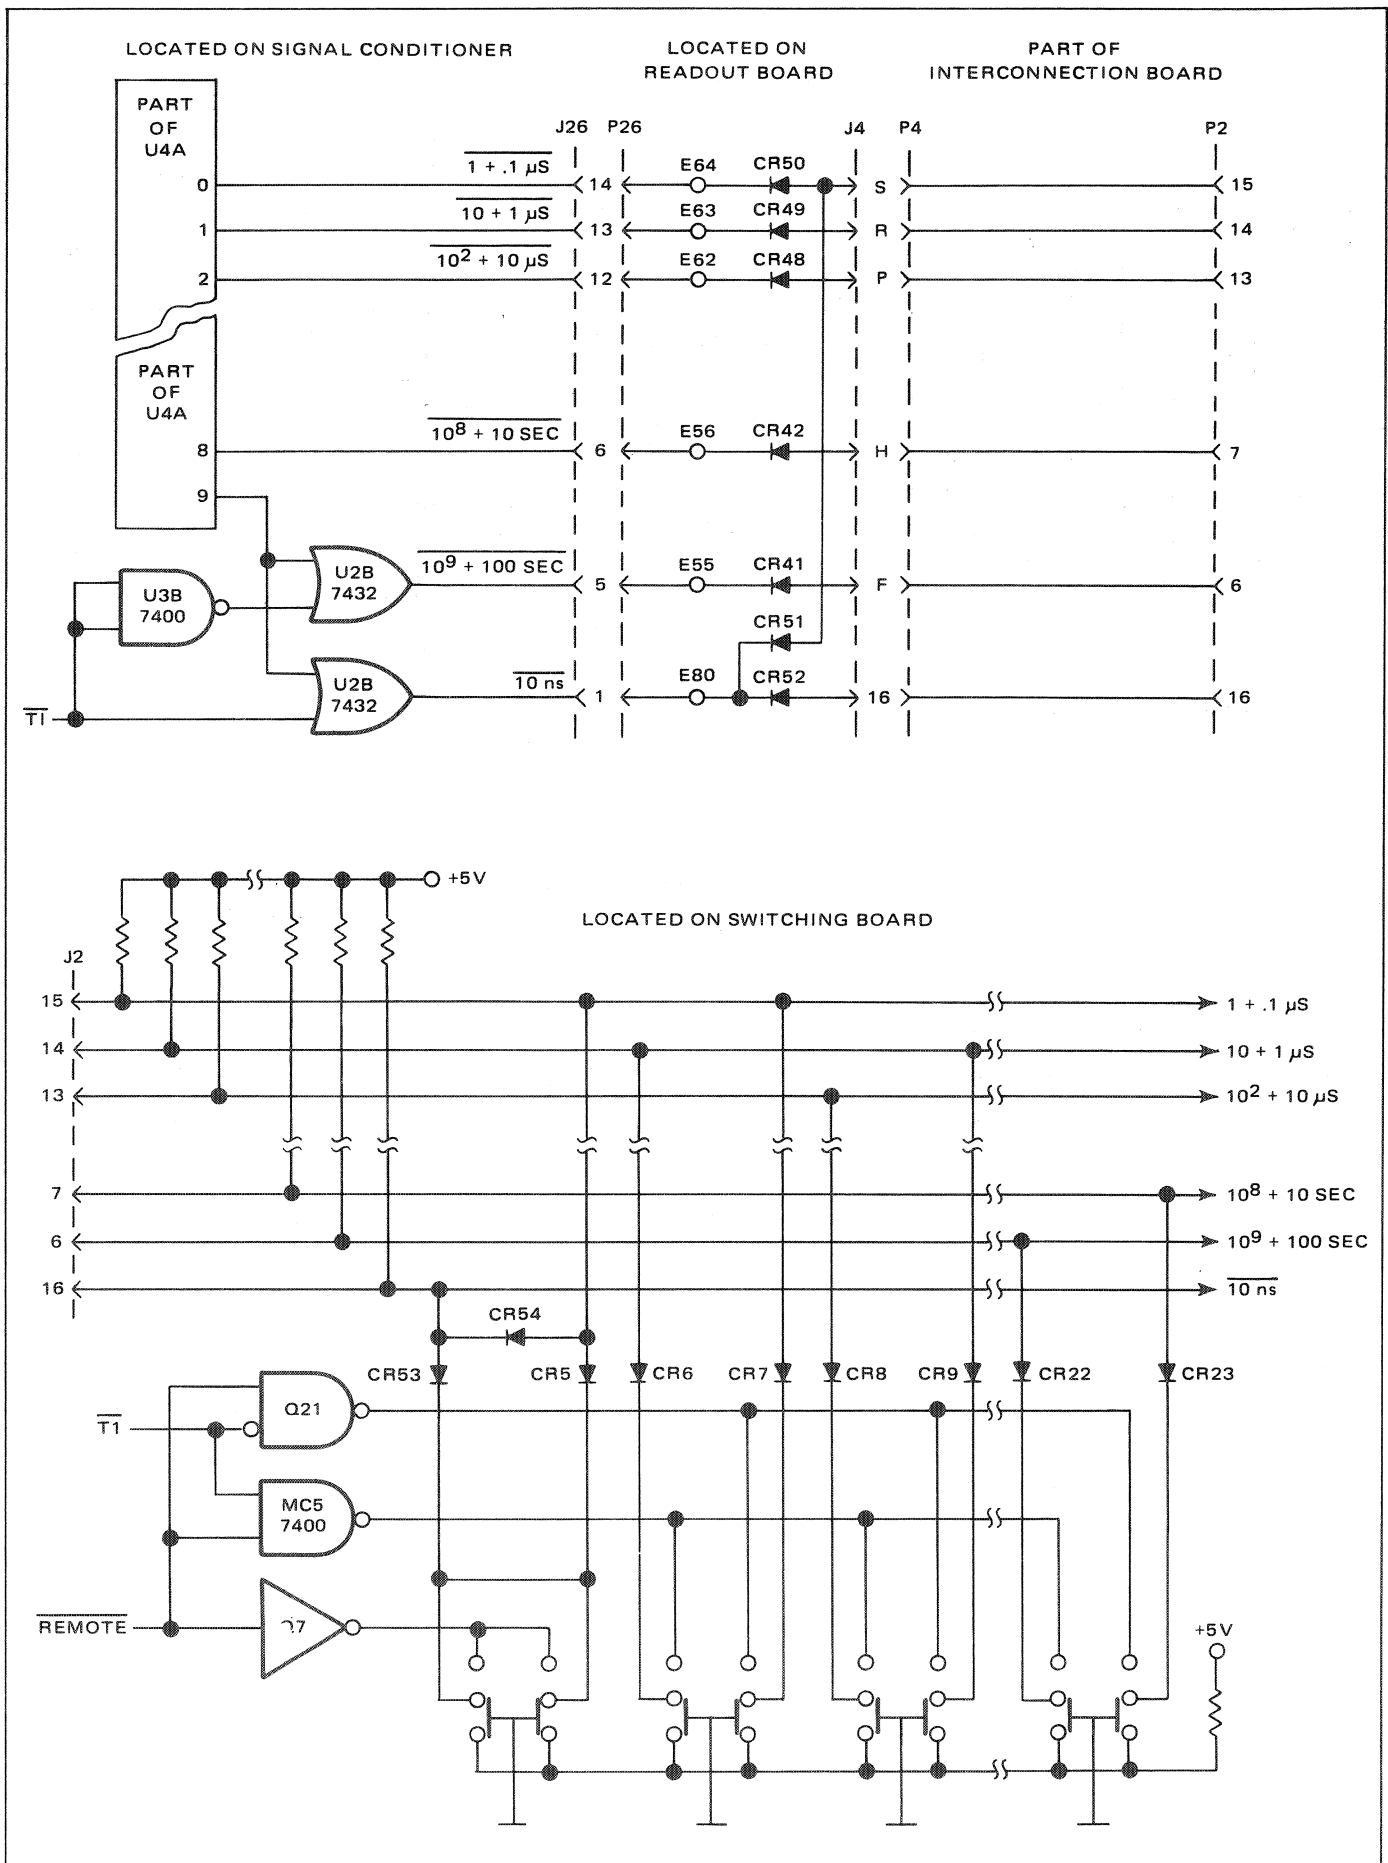

Figure 3.10 - 009 Remote Multiplexer/Time Base Decode (8015B, 8035B)
3.41 In all functions except Time Interval, the multiplier/time base of these instruments is programmed and operates in the same manner as the 8010B and 8030B counters. That is, the input BCD code is converted to 10-line by converter U4A and U4A is inhibited while the instrument is in local control. As shown in figure 3.10, additional logic is provided for the TI function and includes two 'OR' gates (U2B) and a NAND gate (U3B). In all but the TI function, the \overline{TI} line (from the function converter, U4B) is logic 1, U3B output is logic 0, and the 9 output of U4A, when selected, appears at J26-5. In the TI function, \overline{TI} is
logic 0, the output of U3B is logic 1 and the 9 output of U4A, when selected, appears at J26-1 (10 ns line). Also shown in figure 3.10 is the interconnection of the remote and local multiplier/time base circuitry.